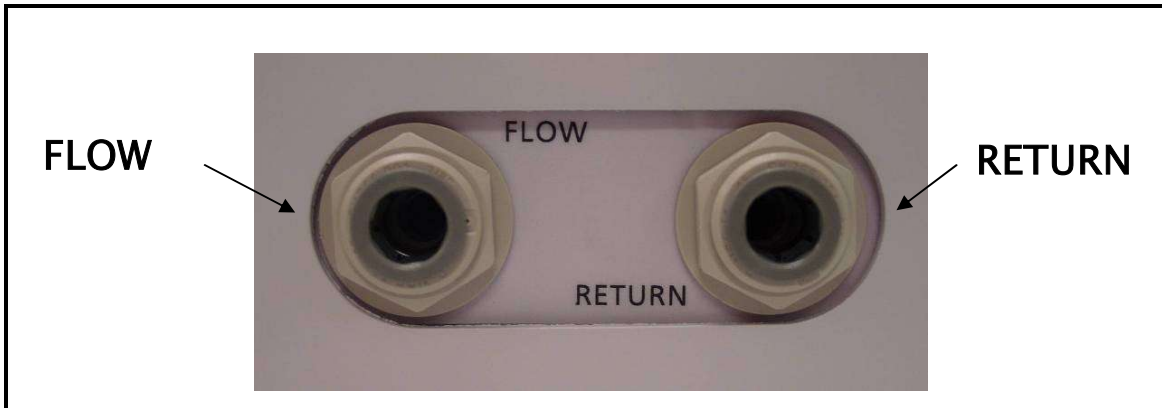

Figure 5.4: Water Cooler: Laser Connections
2. Push the tube into the fitting, to the tube stop ensuring that the flow and return connections are correct (Figure. 5.4).